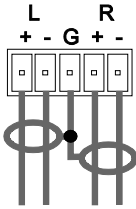

Figure 4: Connecting the Balanced Stereo Audio Input/Output
- A balanced stereo audio input/output connection, see Figure 4